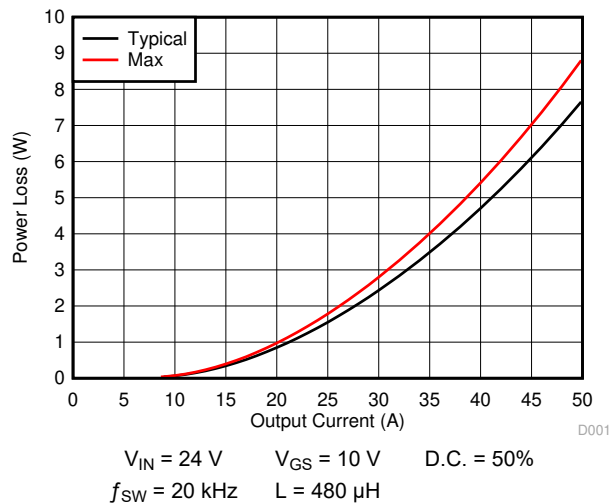

Figure 5-1. Power Loss vs Output Current
The typical power block system characteristic curves (Figure 5-1 through Figure 5-6) are based on measurements made on a PCB design with dimensions of 4 in (W) × 3.5 in (L) × 0.062 in (H) and 6 copper layers of 2-oz copper thickness. See Section 6 for detailed explanation. $T_J = 125^\circ\text{C}$, unless stated otherwise.
図 5-1 plots the CSD88584Q5DC power loss as a function of load current. The measured power loss includes both input conversion loss and gate drive loss.
In the example below, we show how to achieve this for the temperatures $T_C = 124^\circ\text{C}$ and $T_B = 120^\circ\text{C}$. First we draw from 50 A on the Y-axis at 124°C to 120°C on the X-axis. Then, we draw a line up from where this line crosses the T_X line to see that this line intercepts the SOA at 39 A. Thus we can assume if we are measuring a PCB temperature of 124°C , and a top case temperature of 120°C , the power block can handle 39-A RMS, at the normalized conditions. At conditions that differ from those in Figure 5-1, the user may be required to make an SOA temperature adjustment on the T_X line, as shown in the next section.
- Power loss at 40 A \approx 4.7 W (図 5-1)